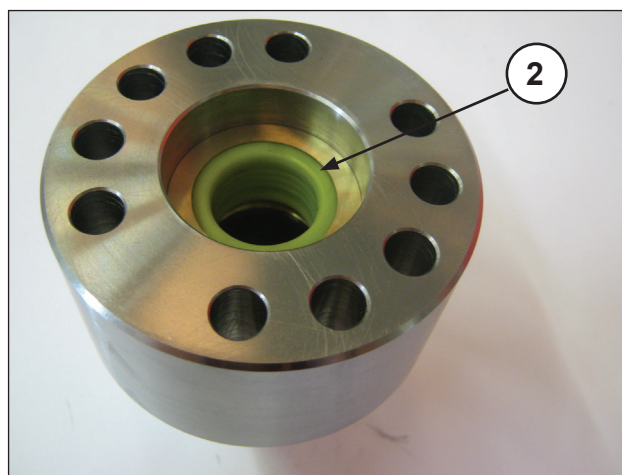
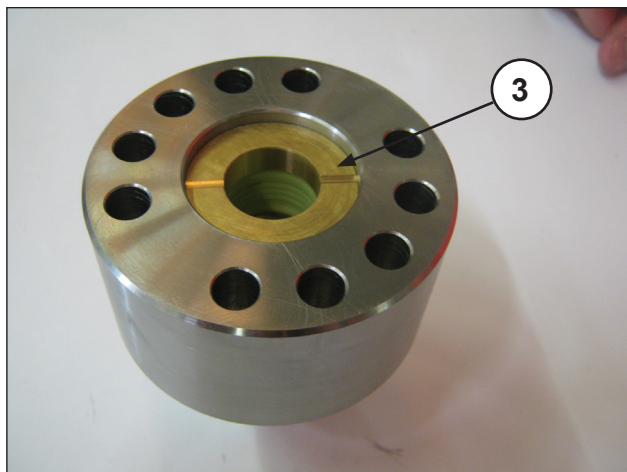
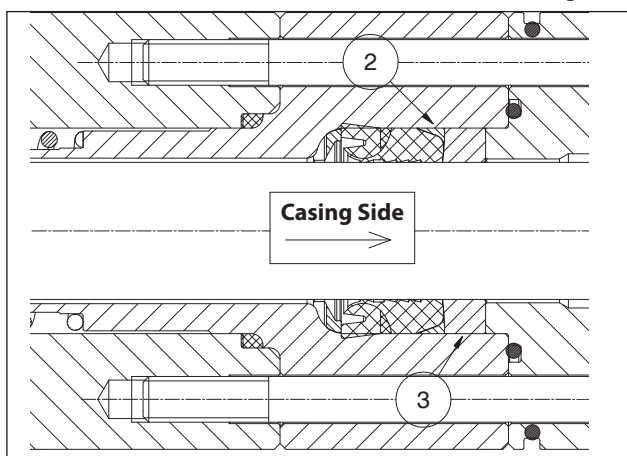

Fig. 136
Fig. 137
Fig. 138
- Insert the anti-extrusion ring ② and the gasket bush ③ arranged as shown in Fig. 136, Fig. 137, Fig. 138.
The gasket bush ③ must be introduced into the support with the outlets facing outwards (casing side) as shown in Fig. 137 and in Fig. 138.